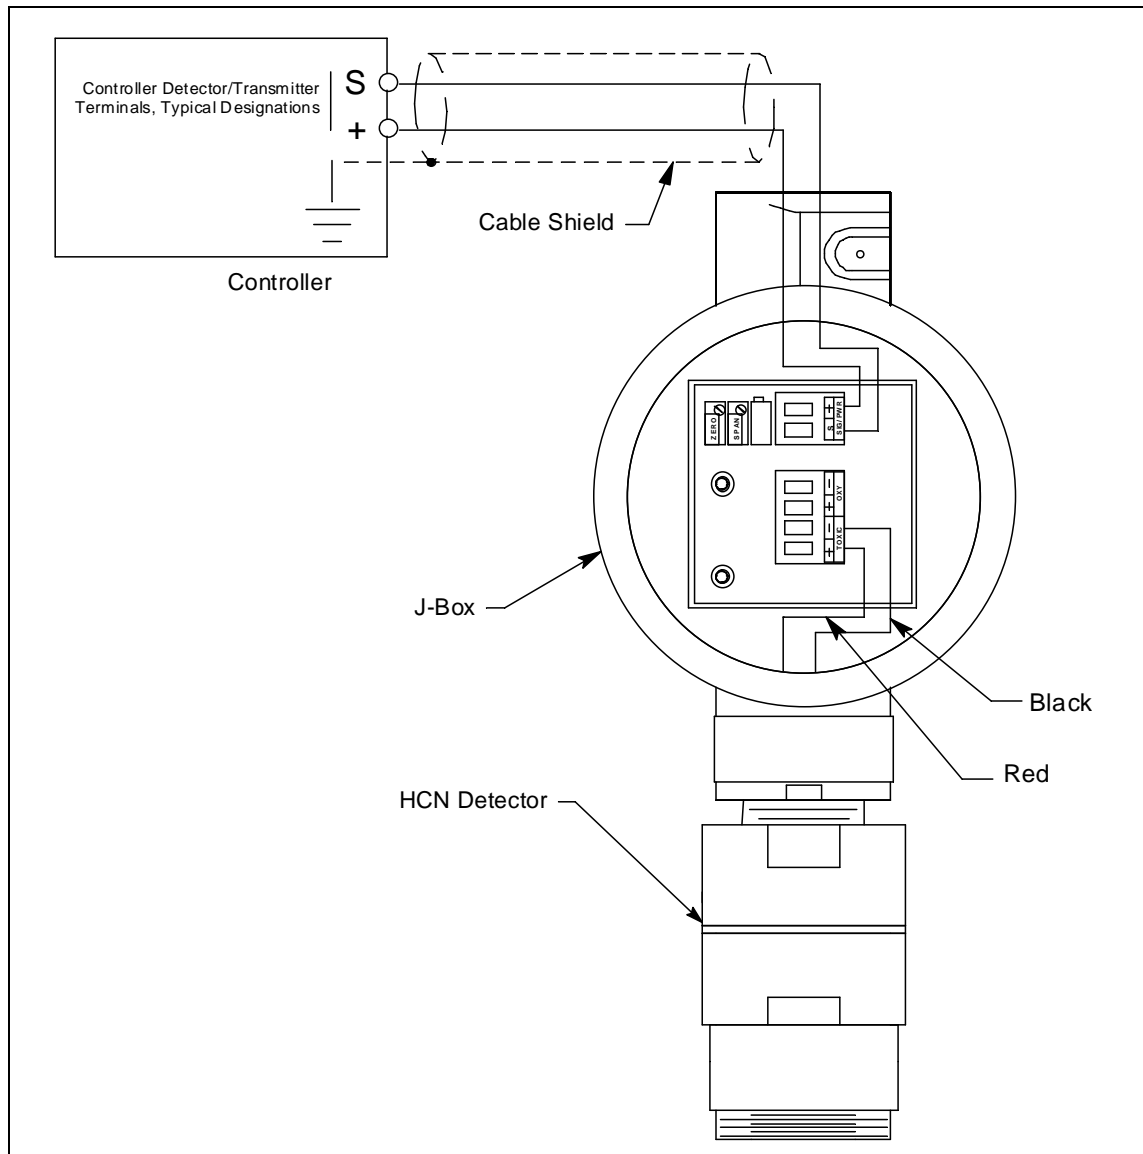

Figure 4: Wiring the HCN Transmitter to a Controller
4. The detector leads are factory wired. Verify that the detector leads are wired to the amplifier's detector terminal strip as shown in Figure 4.
7. Pull out the controller terminal strip and connect the two wires to the terminal strip as follows (see Figure 4).
11. Connect the wires to the applicable detector/transmitter terminal strip at the controller as shown in Figure 4.
8. Connect the detector leads to the appropriate detector terminal strip terminals. Connect the red wire to the terminal labeled TOXIC + and the black wire to the terminal labeled TOXIC -. See Figure 4 for the detector wiring connections to the amplifier.